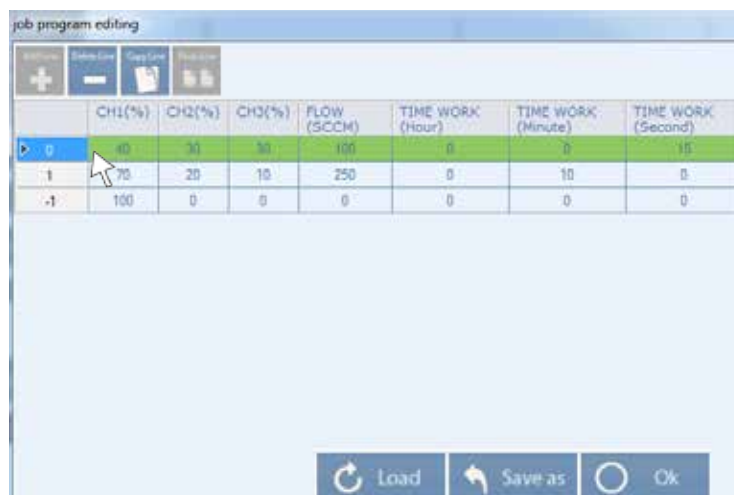

Fig. 31
2. After the launch, the “**Edit – Run Program**” start screen will be displayed as shown in the example below. (Fig. 31)